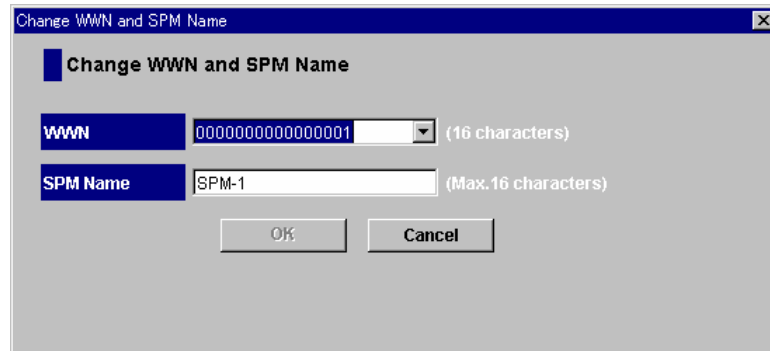

Figure 8.4 Change WWN and SPM Name Dialog Box
4. From the pop-up menu, select **Change SPM Name**. The **Change WWN and SPM Name** dialog box (Figure 8.4) is displayed.